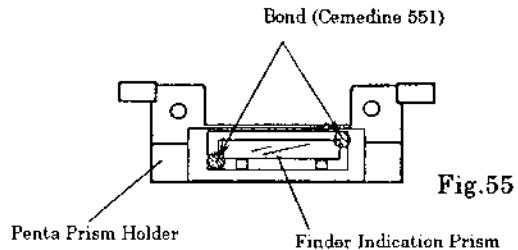

Fig.55
- 7) Lower the FS Holder Ass'y (1AMF0200) by pushing the end of the FS Lock Spring (L) and remove the Focusing Screen (1AH84900).
- 9) Remove the Penta Prism (1AF80100) and Viewfinder Frame (B) (1AF80800).
- The Finder Indication Prism is fixed with the bond (Cemedine 551). (See Fig. 55)
- 11) Remove the Penta Prism Spacer (1AF80300), Condenser Lens (1AF80600) and Viewfinder Frame (A) (1AF80700).
- 1) On the Penta Prism Holder, install the Viewfinder Frame (A) (1AF80700), Condenser Lens (1AF80600) and Penta Prism Spacer (1AF80300) in the named order.
- 3) Apply the bond (Cemedine 551) as shown in Fig. 55.